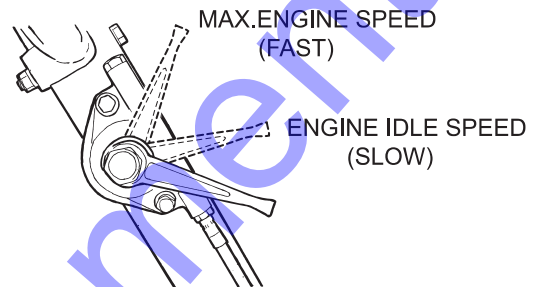

Figure 14. Engine Throttle Lever
4. Place the **throttle lever** (Figure 14), located near the hydraulic pump, halfway between **fast** and **slow**.
- Place the **throttle lever** (Figure 14) in **slow** position, and listen for the engine speed to decrease.